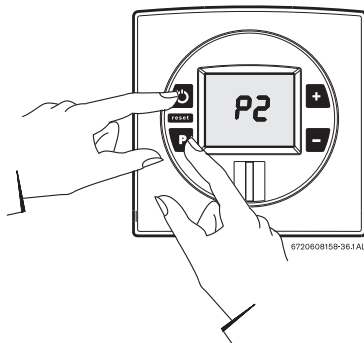

Fig. 56
- ▶ While holding the Program (P) button in, press the ON/OFF button to turn ON the heater (see Fig. 56). As soon as '188' flashes on the display, release the Program button. The display should now read P2. Press **+** button until "P1" appears on display.